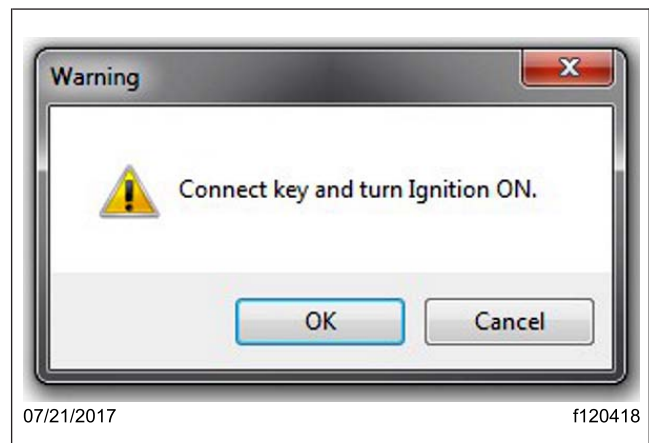

Fig. 8, Turn Ignition ON Message
10. After 20 seconds, a window opens. See Fig. 8. Insert the key in the ignition and turn it to the "ON" position, then select "OK."